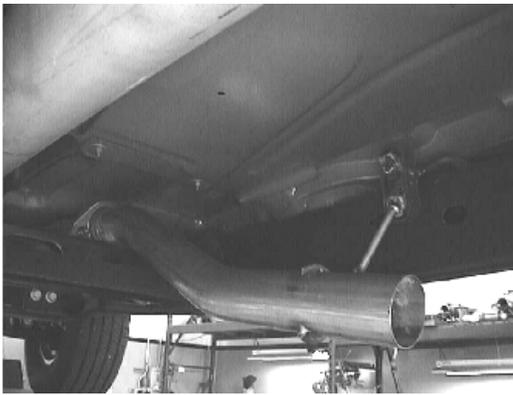

Figure 3
1. Place front pipe assembly into position shown in figure 3 and insert hanger into rubber bracket. Install hardware onto flange and torque to vehicle manufacturers recommendation.